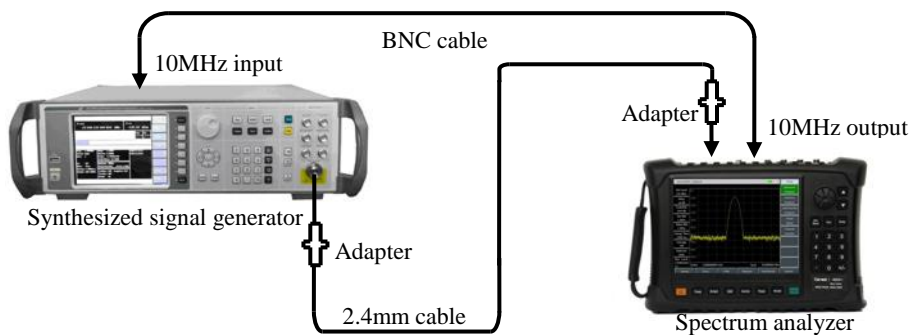

Fig. 12-13 Setting for Image, Multiple and Out-of-band Response Test
- 1) Connect the test instruments as shown in Fig. 12-13. The spectrum analyzer will provide the frequency reference for the synthesized signal source.